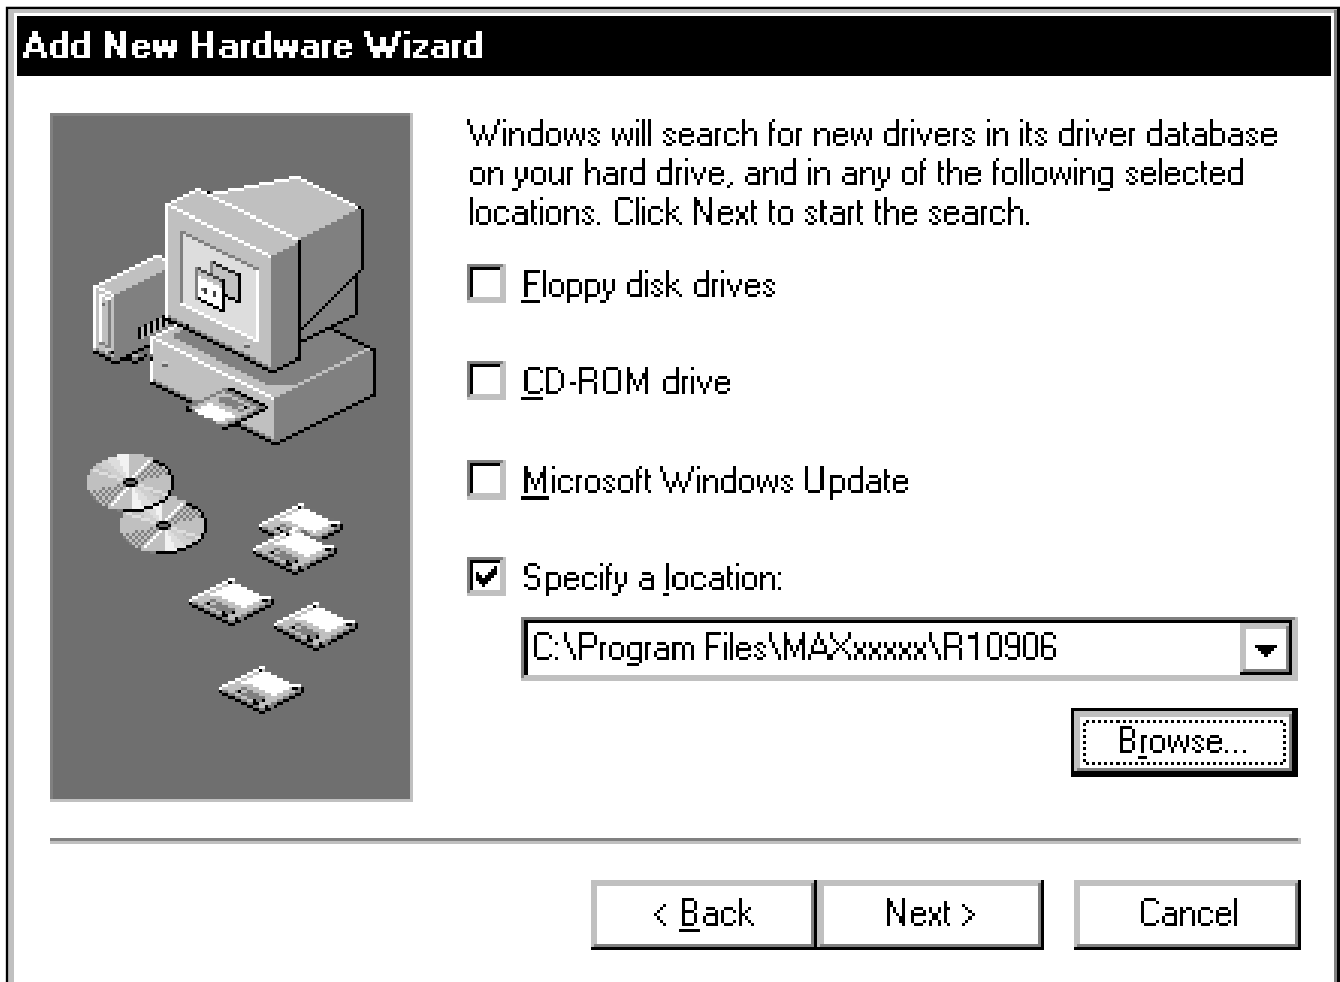

Figure 25. Windows 98SE: **Add New Hardware Wizard | Specify Location** Window
- 3) At the **Add New Hardware Wizard | Specify Location** window (Figure 25), check the **Specify a location** checkbox and press the **Browse** button. Choose the path **C:\Program Files\MAXxxxxx\R10906** (where xxxxx represents the Maxim IC part number on the EV kit being evaluated). Press the **Next** button when finished.